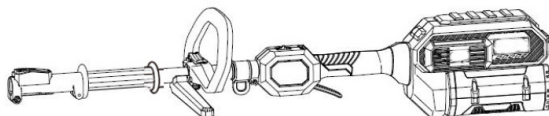

fig.2B
b) Position the front-assist handle onto the upper shaft of the trimmer. Ensure that the limiting block locks into the designated slot. (Fig.2B)
c) Move the front assist handle up or down to the desired position, then fully tighten the nut to fasten in place (Fig.2B)